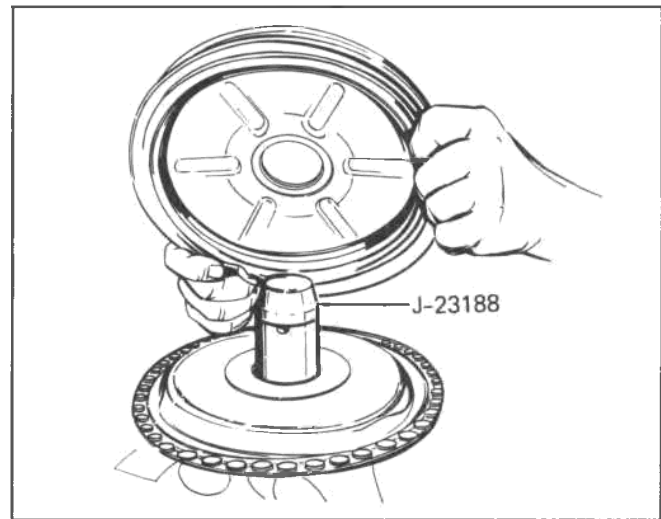

Fig. 5-13A--Positioning Housing Divider Over Secondary Bearing Protector Tool J-23188
29. Position secondary Bearing Protector Tool J-23188 on the threaded end of the secondary power piston (fig. 5-13A).